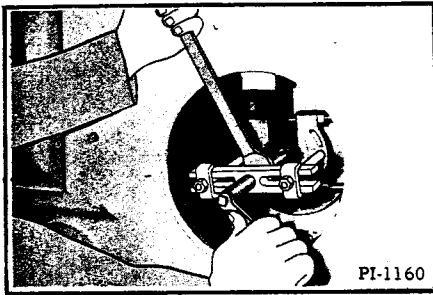

Fig. 61 Pulling Sheave Half from Shaft
5. Pull the sheave half from the engine shaft (Figure 61).
3. Pull the sheave half from the engine shaft (Figure 61).